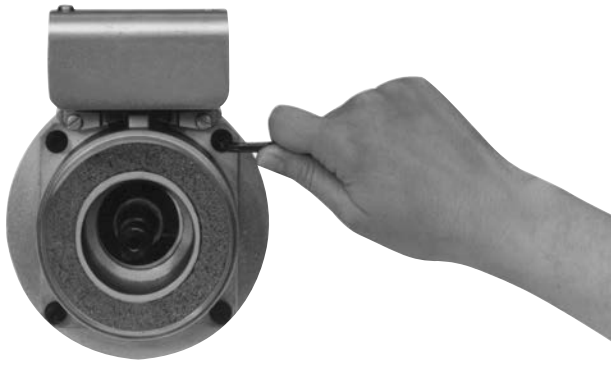

Figure 2
3. Once the mounting surface has been prepared, the magnet is bolted in place with capscrews and lockwashers. (Figure 2.)